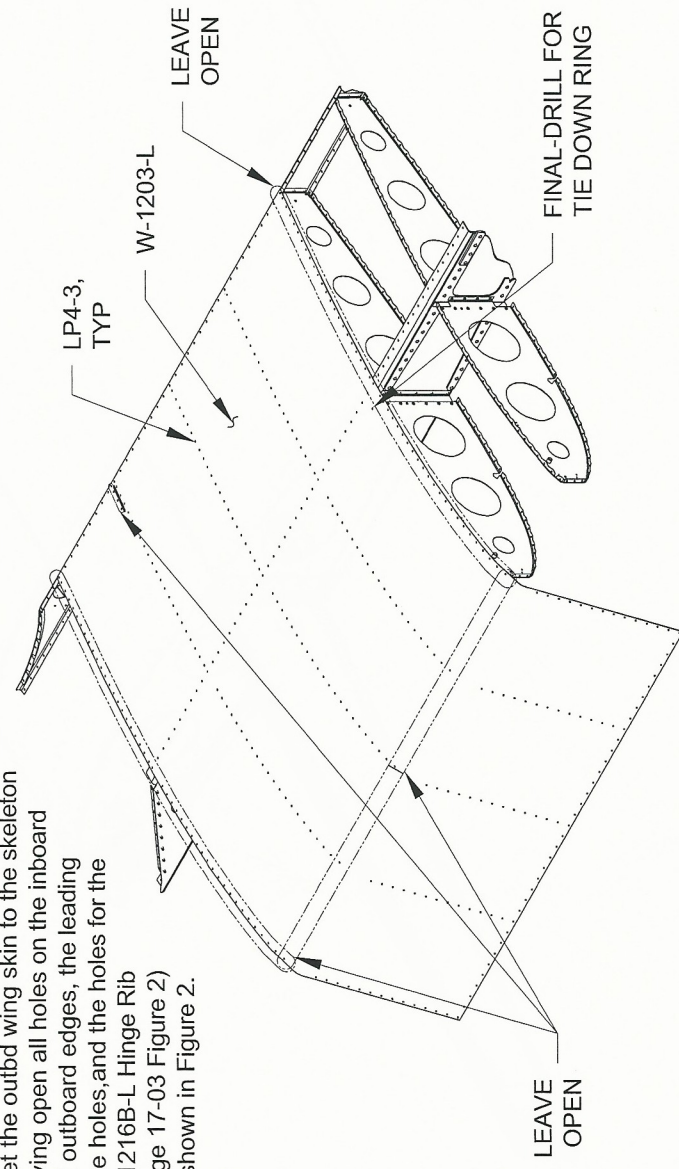
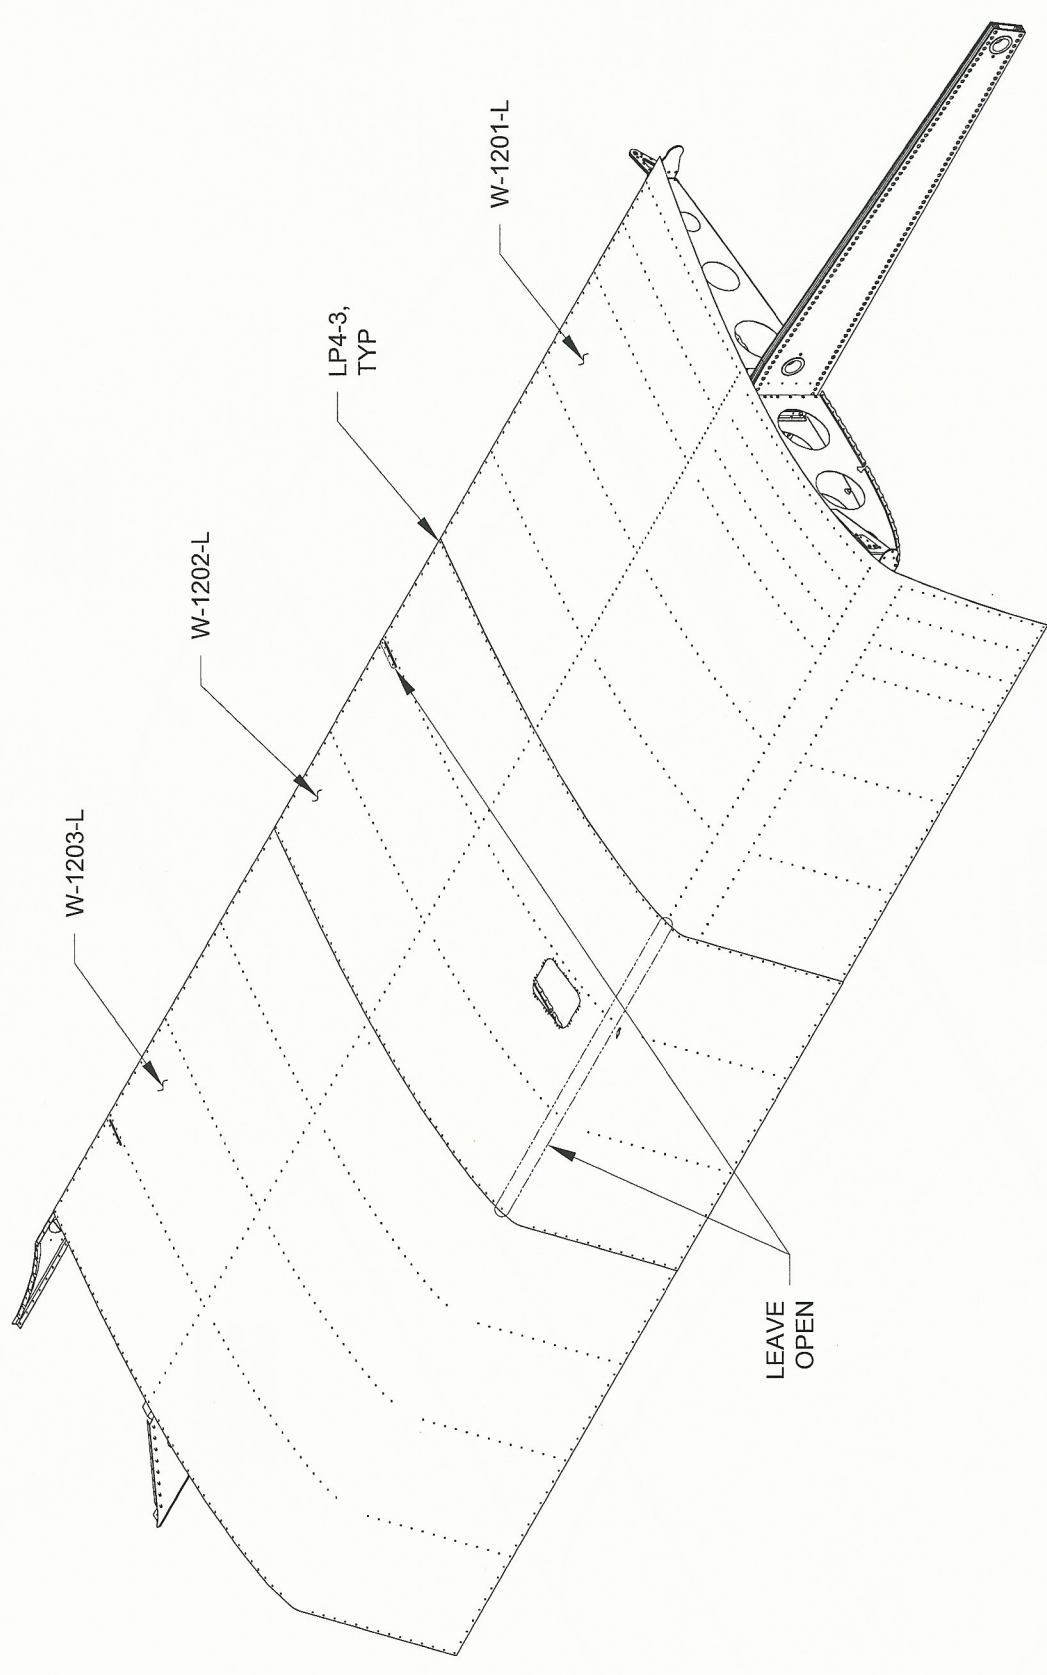

FIGURE 2: ATTACHING OUTBD WING SKIN (LEFT WING SHOWN)
FIGURE 3: ATTACHING MID WING SKIN (LEFT WING SHOWN)
Step 5: Cleco the W-1202-L Mid Wing Skin to the wing skeleton as shown in Figure 3. Rivet the mid wing skin to the wing skeleton leaving open the 1st holes aft of the leading edge and the holes for the W-1216B-L (Page 17-03 Figure 2) as shown in Figure 3.
Step 3: Final-Drill 3/8 the #30 hole in the W-1203-L Outbd Wing Skin for the tie down ring. See Figure 2.
Step 4: Cleco the W-1203-L Outbd Wing Skin to the wing skeleton as shown in Figure 2. Rivet the outbd wing skin to the skeleton leaving open all holes on the inboard and outboard edges, the leading edge holes, and the holes for the W-1216B-L Hinge Rib (Page 17-03 Figure 2) as shown in Figure 2.